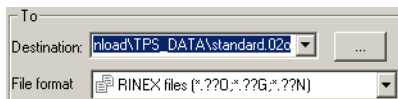

Figure B-25. Destination for Converted File
- Click **Select**. The full path of the file displays in the *Destination* field (Figure B-25).